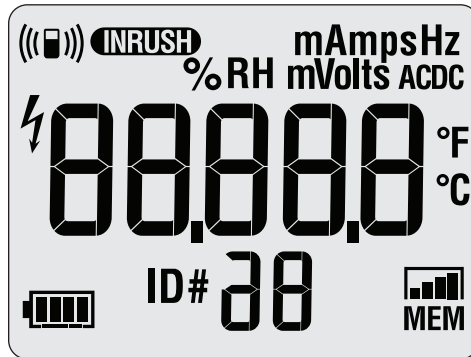

Figure 1. All Segments of the Display
2. Push **1** while you keep **LOG** pushed until all of the display segments are shown. See Figure 1.